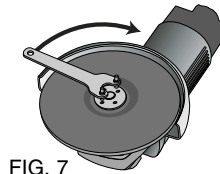

FIG. 7
5. Securely tighten the threaded flange with the supplied spanner wrench (Fig. 7).